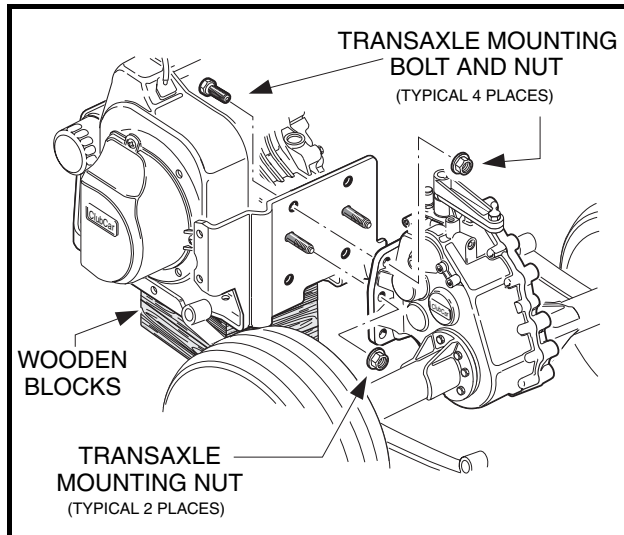

Figure 16-34 Transaxle Mounting
22.1. Remove four transaxle mounting bolts and flat washers (one at each corner of the transaxle mounting plate) (**Figure 16-34, Page 16-15**).
22.2. Remove two middle transaxle mounting nuts from the engine block studs (**Figure 16-34, Page 16-15**).